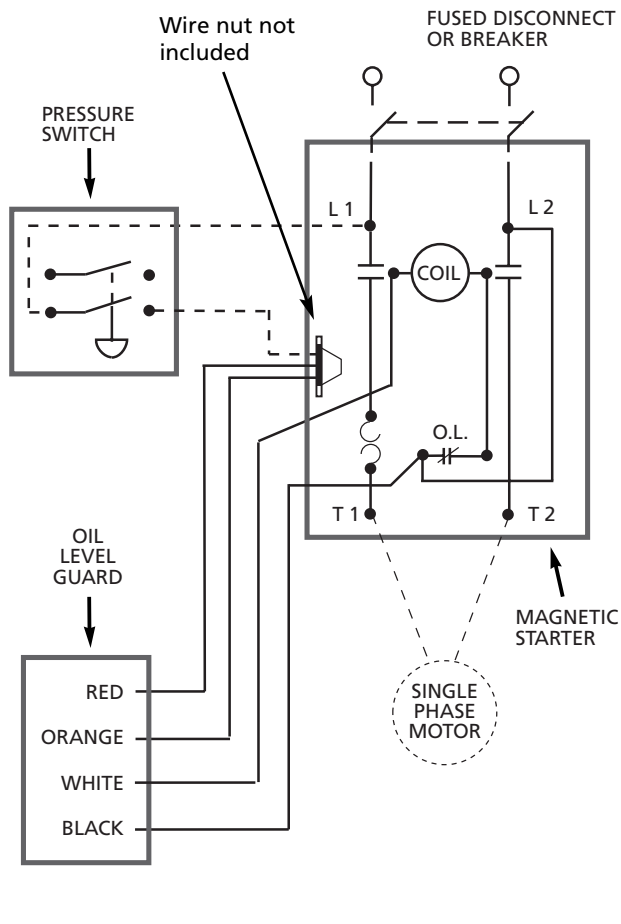

Figure 4 - 208-230 Volt Single-Phase Wiring Diagram
Use the diagram in Figure 4, 5 or 6 to wire the unit to the compressor.
2. Check for wrong wiring (Refer to Figure 4, 5 or 6).